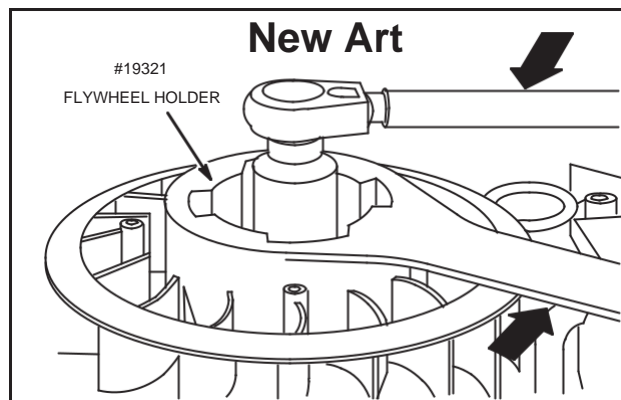

Fig. 8 – Torquing Flywheel Nut
5. Assemble flywheel holder, Tool #19489 to retainer, Fig. 8, or use flywheel holder Tool # 19433.